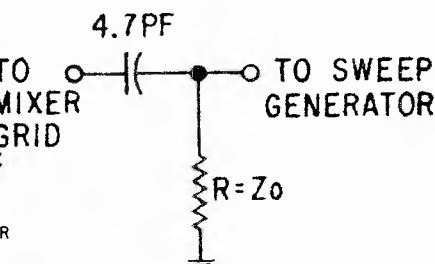
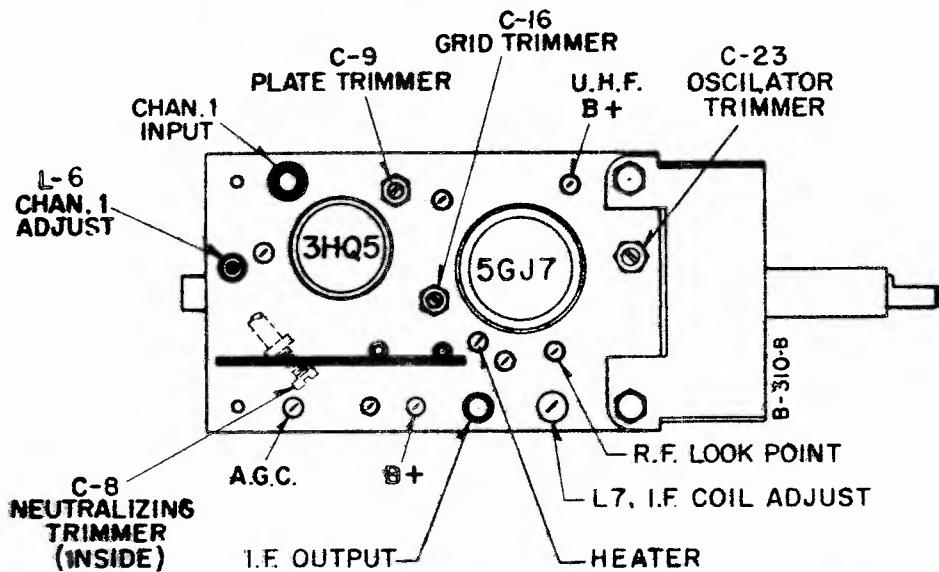

Figure 5.—Terminating Network
Figure 9.—VHF Tuner Adjustments
3. Connect R.F. sweep signal (and marker if built into Sweep Generator) in series with a terminating network (See Figure 5) to the R.F. Test Point on the VHF tuner (See Figure 9).